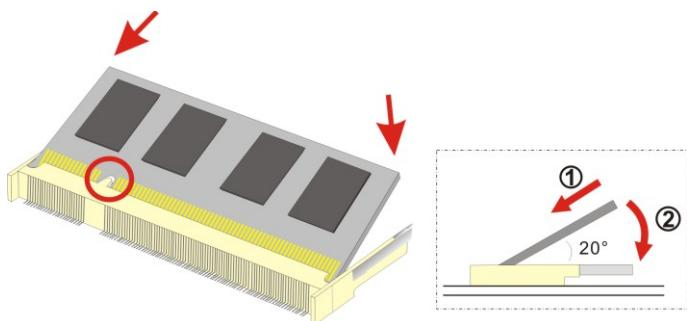

Figure 5-1: SO-DIMM Installation
To install a SO-DIMM into a SO-DIMM socket, please follow the steps below and refer to **Figure 5-1**.
Step 3: Insert the SO-DIMM. Push the SO-DIMM chip into the socket at an angle. (See **Figure 5-1**)
out and push the rear of the SO-DIMM down. (See **Figure 5-1**)